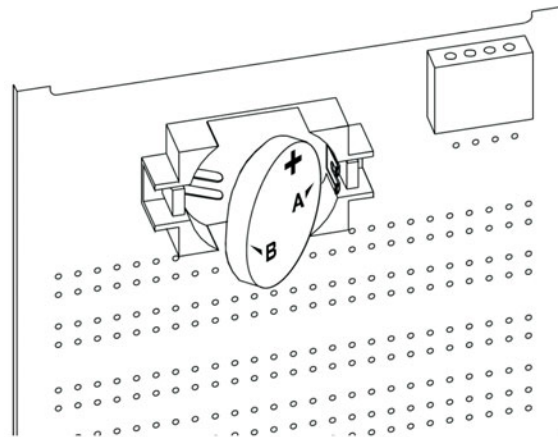

Figure 3-7: Battery holder detail
- Remove the internal shroud and place the battery into its compartment with the positive terminal (+) facing UP. Replace the internal shroud. Refer to Figure 3-7: *Battery holder detail* on page 3-7.
The following procedure describes how to change the battery (see fig 3-7).